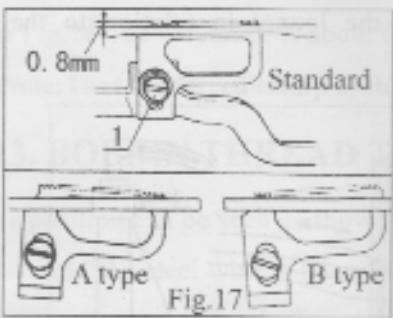
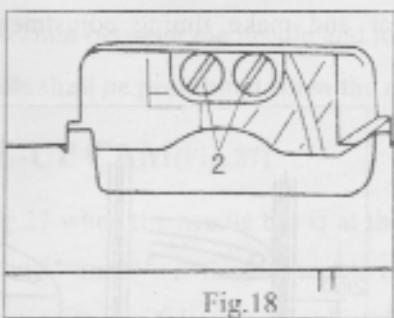

Fig.17
Fig.18
14. ADJUSTING THE HEIGHT OF FEED DOG(Figs.17,18)
Loosen the set screw as shown in Fig.18, the angle of the feed dog can be adjusted to the specified one of standard ,A type and B type. The Max.height of the feed dog 0.8mm is adjustable by the adjusting screw as shown in Fig.17.